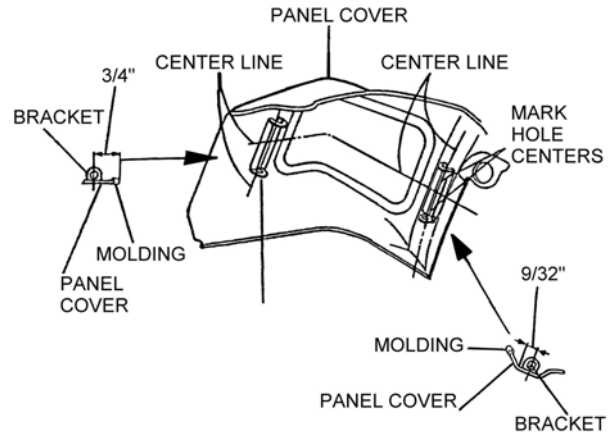

Figure 6
- Position the brackets on either side of the left/right light openings and mark the four mounting holes on the inside of the fairing panels covers, Fig 6. Center punch the hole centers with a hammer and carefully drill the four holes using a 3/16" drill bit and electric drill.